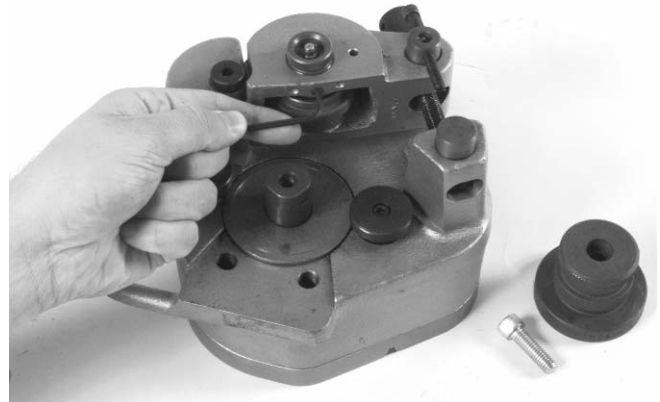

Figure 9 – Loosening Set Screw in Reaction Arm
5. Using a 1/8" hex key, loosen set screw in reaction arm and remove groove roll shaft (Figure 9).